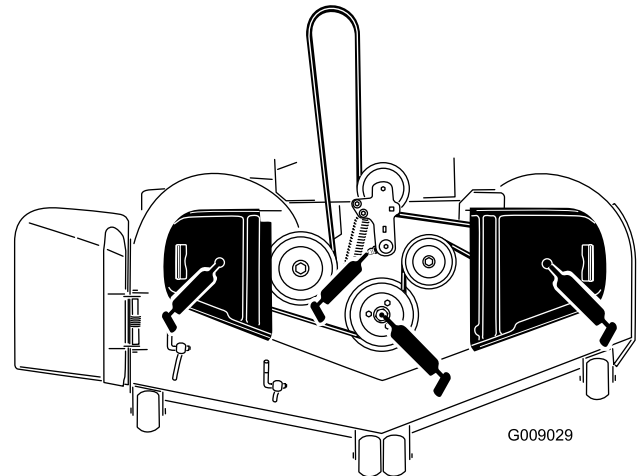

Figure 45
5. Grease the mower-deck idler-pulley pivot until grease comes out the bottom (Figure 45).
6. Grease the 3 spindle bearings until grease comes out the lower seals (Figure 45).
- Grease the drive-belt idler arm (Figure 45).